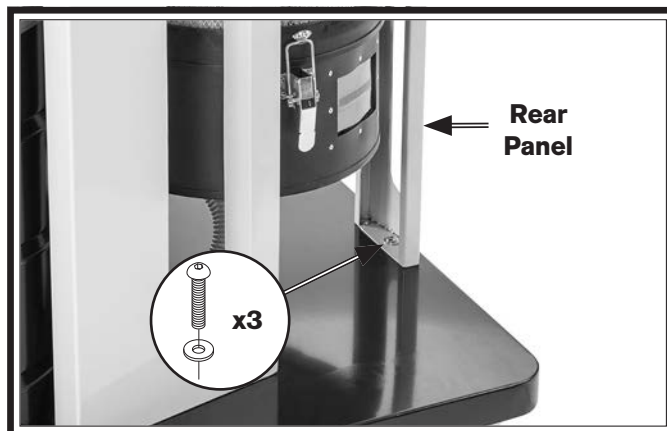

Figure 72. Rear panel attached to base.
7. While assistant supports rear panel, remove (3) button head cap screws and flat washers, then remove rear panel (see **Figure 72**).